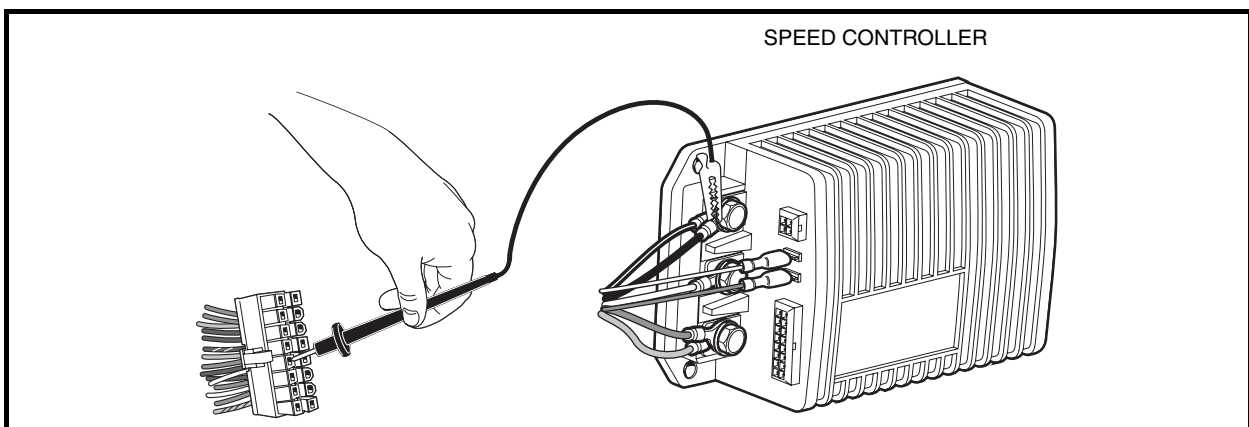

Figure 11-20 Pin 12 Test
4. Place a jumper wire with an alligator clip between the B– terminal of the speed controller (use alligator clip for this connection) and pin 12 (blue/white wire) of the 16-pin connector (**Figure 11-20, Page 11-31**). **See following CAUTION.**